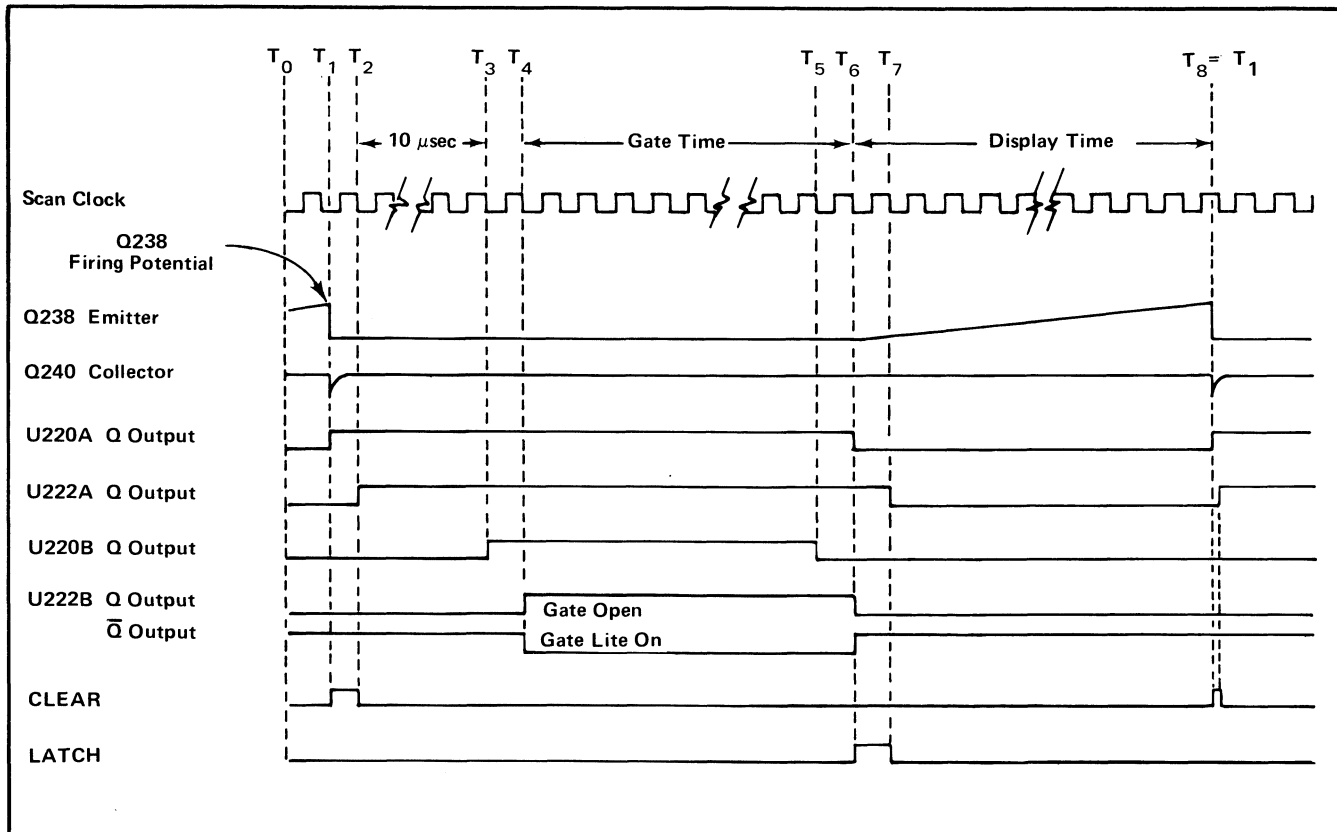

Fig. 2-1. Time Base generator normal gating mode ladder diagram.
Assume that the T_0 conditions are as given in Fig. 2-1. The Q outputs of U220A, U222A, U220B, and U222B are all LO. Q230 is off and the emitter of Q238 rises as C235 charges. At T_1 , Q238 reaches its firing potential and discharges the capacitor. This results in a short-duration LO pulse on the direct-set input (pin 2) of U220A, forcing its Q output HI and its \overline{Q} output LO. With two HI inputs on NAND gate U230A, its output goes LO and the output of
At the end of a 10-microsecond delay (time for the DDU's to count the first digit, plus a propagation delay), a negative transition from the DDU's via the MEASUREMENT INTERVAL switch toggles U220B. This corresponds to T_3 in Fig. 2-1. U220B's Q output goes HI and its \overline{Q} output goes LO. The next negative transition from the 1-MHz clock (T_4) toggles U222B, causing its Q output to go HI (GATE open) and its \overline{Q} output to go LO (supplying current to the front-panel GATE indicator LED, DS225). The GATE signal is also applied to the base of Q230, saturating the transistor and preventing C235 from charging.
The GATE remains open (HI) for the time duration selected by the MEASUREMENT INTERVAL switch. At the end of this time, which corresponds to T_5 in Fig. 2-1, another negative transition from the DDU's toggles U220B. U220B's Q output goes LO and its \overline{Q} output goes HI. The next negative transition from the 1-MHz clock (T_6) toggles U222B, causing its Q output to go LO, closing the GATE. Simultaneously, the \overline{Q} output goes HI, removing current from the GATE indicator LED.